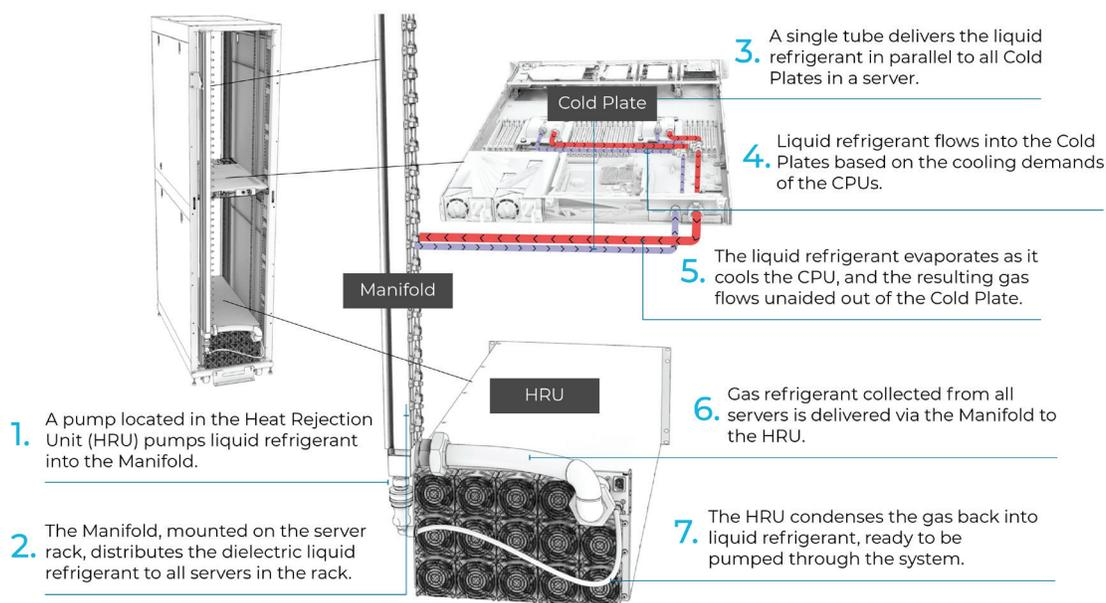

Figure 9: Two-phase direct on-chip, closed-loop dielectric liquid cooling solution with an air HRU. Source: zutacore.com
- Heat Rejection Units (HRUs) move dielectric fluid to the servers via manifolds and ensure efficient vapor condensation and rejection of the heat it contains. HRUs are self-contained, fully autonomous units with independent sensors, pumps, controllers, and multi-level leak detection and prevention supporting higher rack power densities. Depending on a data center's design and specifications, air or water can be utilized as the cooling source. Figure 9 shows the solution with an air HRU.